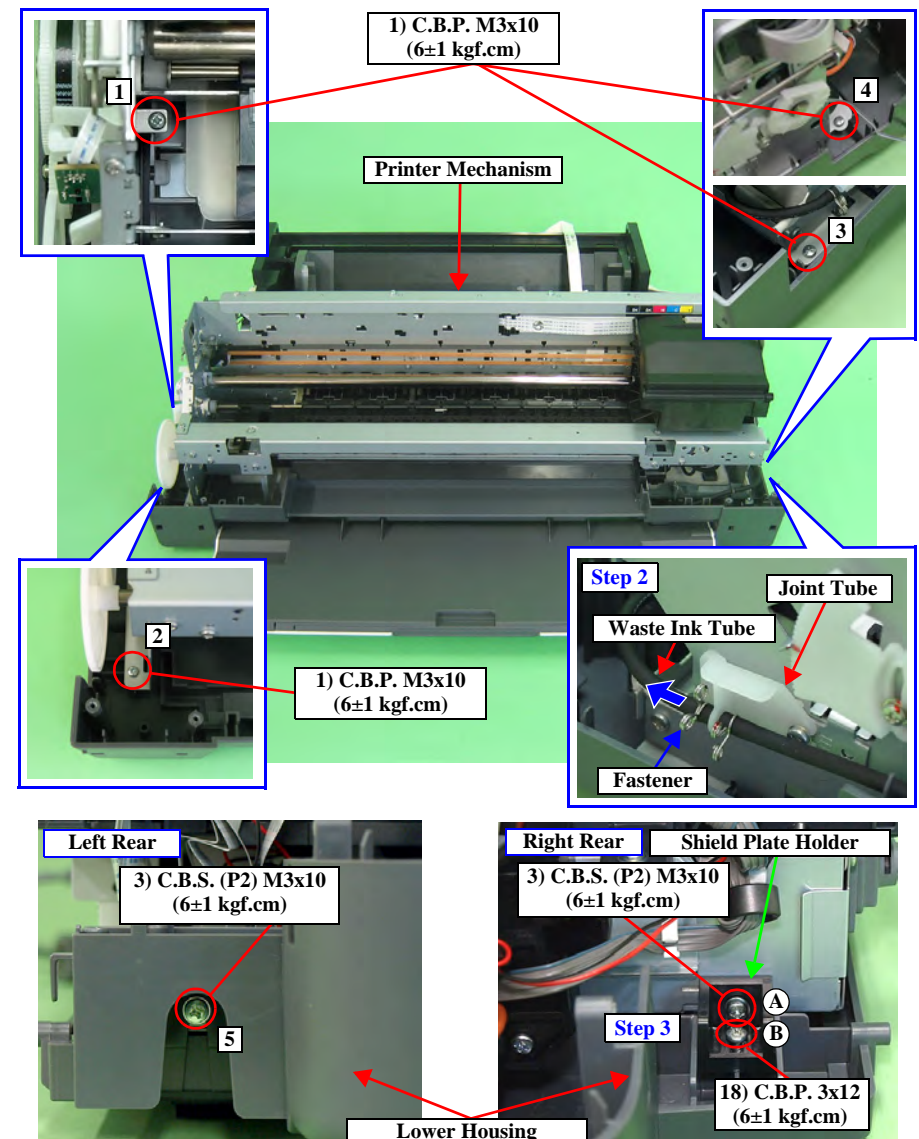

Figure 4-51. Screws that Secure the Printer Mechanism
- Install the Printer Mechanism to the Lower Housing as follows. (refer to Figure 4-51)
2. Place the Printer Mechanism on the Lower Housing and secure the Shield Plate Holder and the Printer Mechanism with the screw (A).
4. Secure the Printer Mechanism and Lower Housing with screws (x5). (Tighten the screws in the order shown in Figure 4-51)